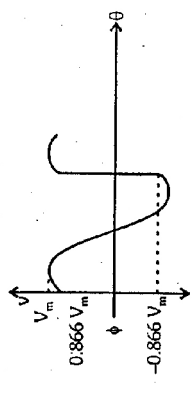

Fig. 2.10
10. Find rms value of the waveform shown in Fig. 2.10.